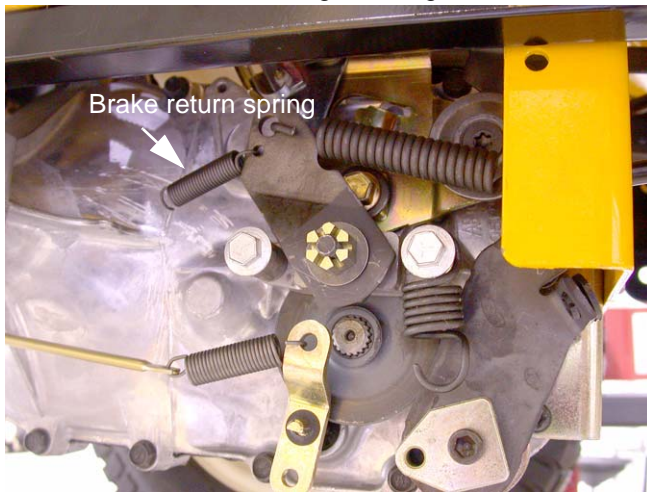

Figure 26.16
26.16. If the brakes are dragging or worn, or if the rotor needs to be removed from the shaft disconnect the brake return spring where it attaches to the transmission housing. See Figure 26.16.
26.18. Using a 7/16" wrench, remove the two bolts that hold the caliper to the transaxle. See Figure 26.16.